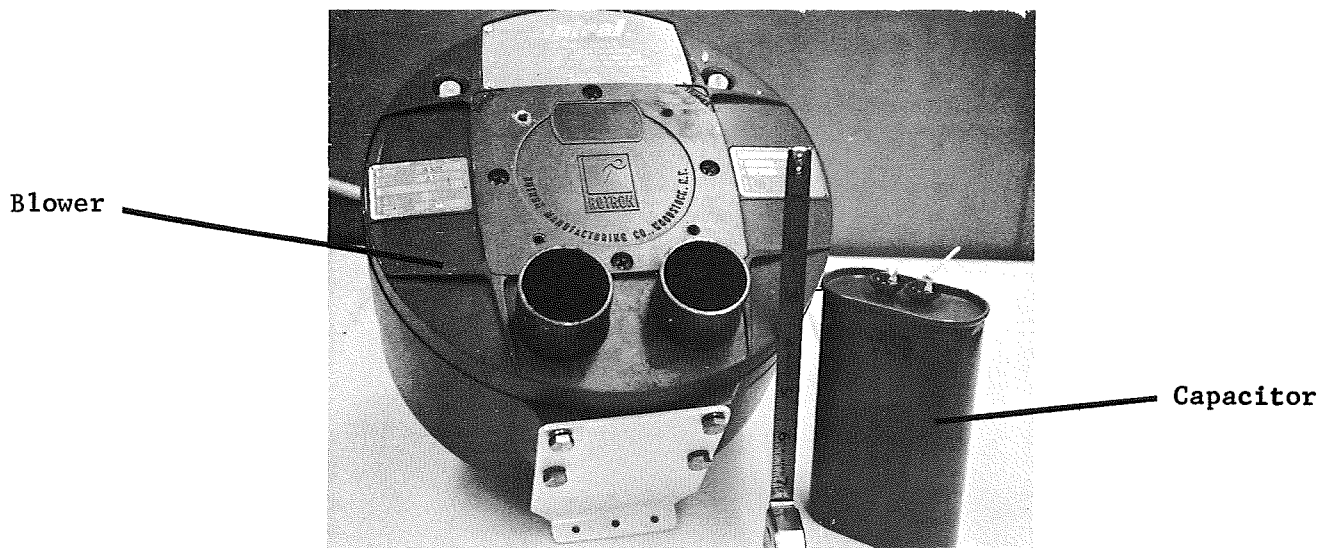

FIGURE 14. AIR BLOWER
4.6 Air Blower (See Figure 14)
This is a SL2EA2AB spiral type air blower made by the Rotron Manufacturing Co. It has a nominal capacity of 30 CFM at 20 inches of water. Associated with it is a 25 mfd 330 VAC capacitor. Not shown in Figure 14 but mounted directly on top of the blower is a small plenum which serves as an air system bypass which balances the air flow. Without this device too much air can be drawn into the system causing water from the phase separator to enter the blower. The bleed hole on this plenum has been adjusted in size so as to prevent this and still allow enough air flow to draw water into the blender and prevent it from flowing under the seat during a flush cycle.